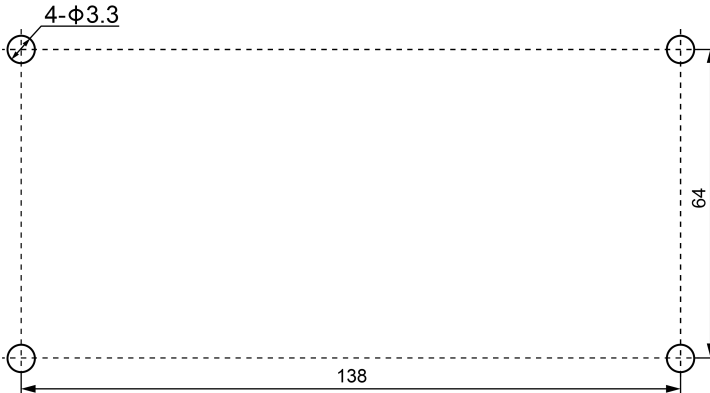

Fig. 3.12 Installation Holes of the Electric Box Rear Cover
- 2) In case that the centralized controller is installed inside the control cabinet, dig 4 installation holes on the surface of the control cabinet according to fig.3.12.
- (4) In step ①, pull out the power core and communication cord, and then lead them separately from the wire orifice of the electric box rear cover. Never lead the cords through a same orifice.
- (5) In step ①, pull out the power core and communication cord, and then lead them separately from the wire orifice of the electric box rear cover. Never lead the cords through a same orifice.
- (6) In step ⑥ pull out the wire connecting the touch screen and controller's rear cover. Put the touch screen on a safe place.
- (7) In step ⑦, connect the communication cords to G1, G2 terminals, and connect the neutral wire and live wire to the N, L terminal; connect the ground wire to position  on the electric box rear cover. Secure it with screw M4×12.
- (8) In step ⑧, locate the controller's rear cover onto the electric box rear cover with screw ST4.2×9.5 MC.
- (9) In step ⑨, connect the wire between touch screen and controller's rear cover.